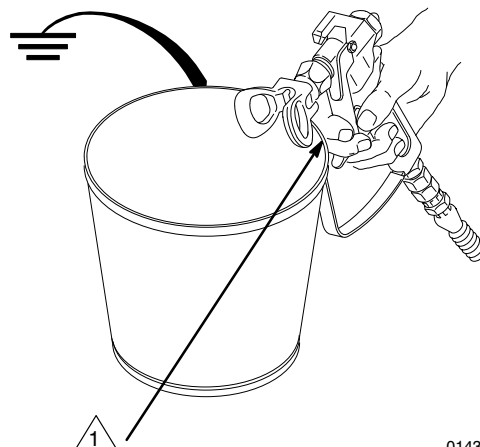

Fig. 4
7. To prime pump, hold a metal part of gun firmly against into a metal waste container. See Fig. 4. Squeeze trigger and hold it open, turn ON/OFF switch to ON, and slowly increase pressure setting until sprayer starts. Keep gun triggered until all air is forced out of system and paint flows freely from gun. Release trigger and engage gun safety latch.
7. Hold metal part of gun firmly against metal waste container. See Fig. 4. Trigger gun, turn sprayer switch (B) on, and slowly increase pressure until sprayer just starts. Keep gun triggered until all air is forced out of system and solvent flows freely from gun. Release trigger and engage gun safety latch.